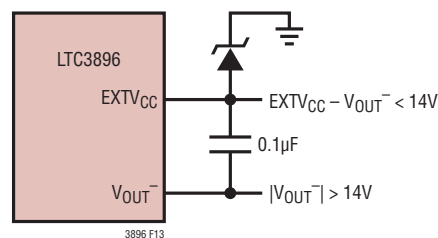

Figure 13. Using a Zener Diode Between $EXTV_{CC}$ and Ground
4. $EXTV_{CC}$ connected to ground through an external Zener diode. If the output voltage is more negative than -14V , a Zener diode can be used to drop the necessary voltage between ground and $EXTV_{CC}$ such that $EXTV_{CC}$ with respect to V_{OUT-} remains below 14V (Figure 13). In this configuration, a bypass capacitor from $EXTV_{CC}$ to V_{OUT-} of at least 0.1μF is recommended. An optional resistor between $EXTV_{CC}$ and V_{OUT-} can be inserted to ensure adequate bias current through the Zener diode.